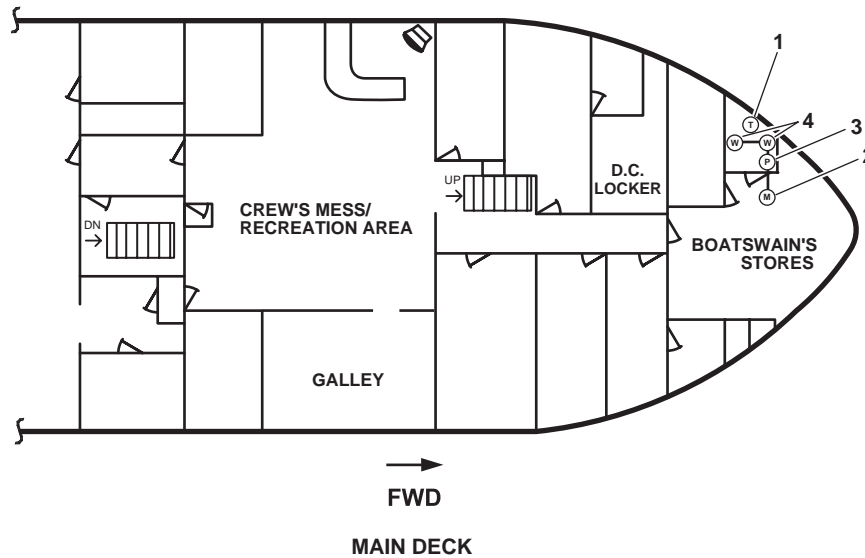

Figure 7. Arms Locker Drenching System
System activation occurs when the thermal heat detector (figure 7, item 1) senses a temperature above 105 °F (40.5 °C). The thermal heat detector sends an alarm signal to the pilothouse indicating a high temperature situation in the arms locker. The crew would then investigate the situation and if necessary, the fire main system would be charged. Once it is determined that the alarm condition exists and the fire main system is charged, the manual activation valve (figure 7, item 2) is OPENED either locally or remotely. As raw water enters the piping system in the arms locker, a pressure switch (figure 7, item 3) activates an alarm in the pilothouse to indicate that the arms locker drenching system has been activated. The raw water from the fire main flows into the arms locker and out of two sprinkler heads (figure 7, item 4). Once activated, the system will continue the flow of raw water into the arms locker until the manual activation valve is closed, or the fire main system is secured.